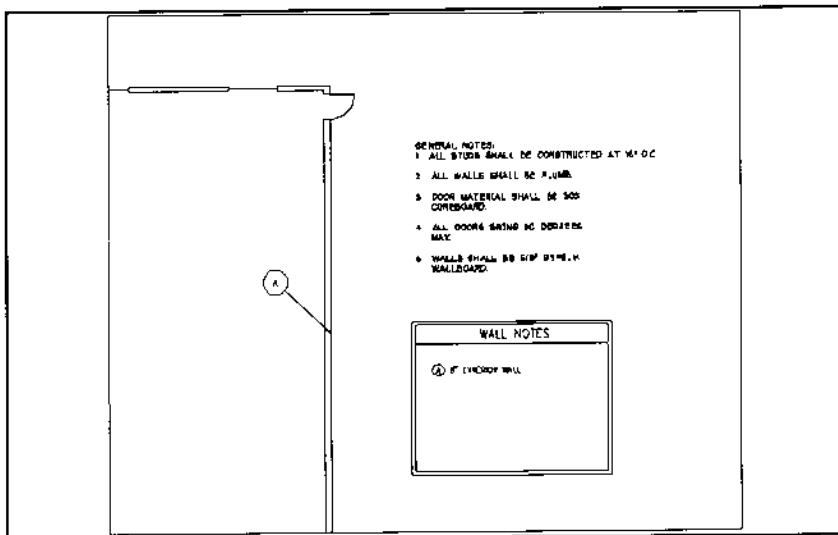

Figure 20.
1. Insert a note for an Alpha Tag into the note box as shown in Figure 20.
- > Pick center of circle for alpha note: [select location for tag as shown in Figure 20]